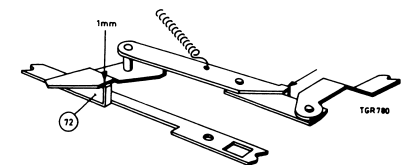

Fig. 8
### Adjusting the toggle lever, item 81, Fig. 8